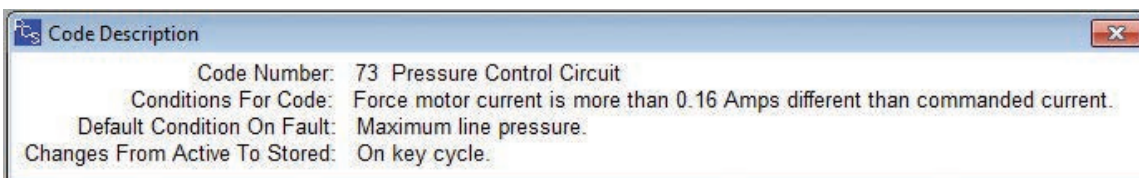

Figure 3
2. Once the trouble code number is clicked, a code description will appear. Reference Figure 3.